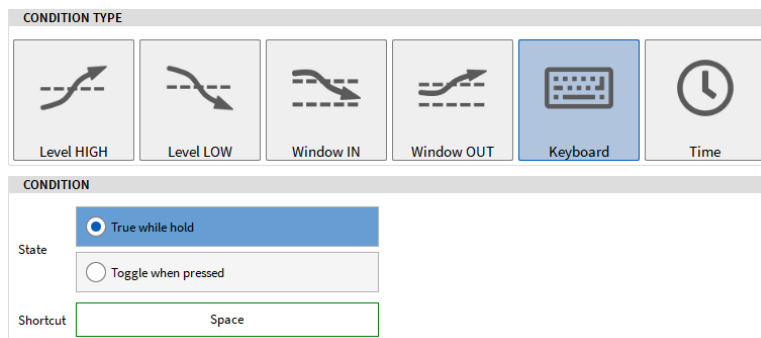

Fig. 9.38: Space Key Condition type
- Select *Keyboard Condition Type* and *True while hold* as Condition State with the *Space key* as Shortcut (see Fig. 9.38):